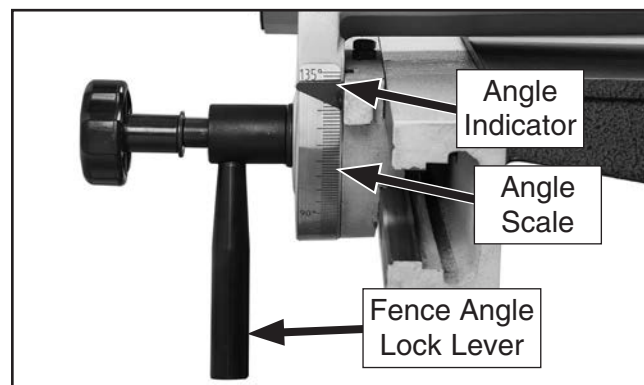
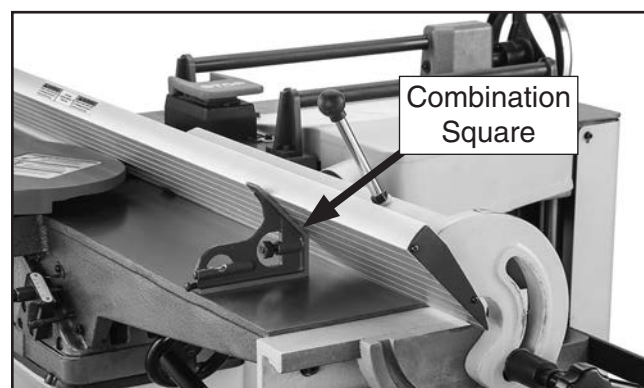

Figure 72. Fence adjustment components.
Figure 76. Fence adjusted 45° inward.
1. Loosen fence angle lock lever (see **Figure 72**).
1. Loosen fence-angle lock lever (see **Figure 72**), and use a combination square adjusted to 135° to adjust fence to 135° (45° outward) position, as shown in **Figure 74**.
1. Loosen fence-angle lock lever (see **Figure 72**), and use the 135° side of a combination square to adjust fence to 135° (45° inward) position, as shown in **Figure 76**.